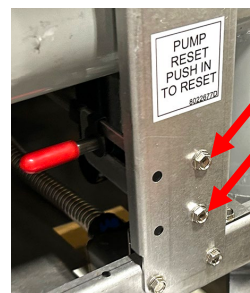

Figure 4
5. Remove the two (2) screws attaching the filter motor reset rod. (see Figure 4).